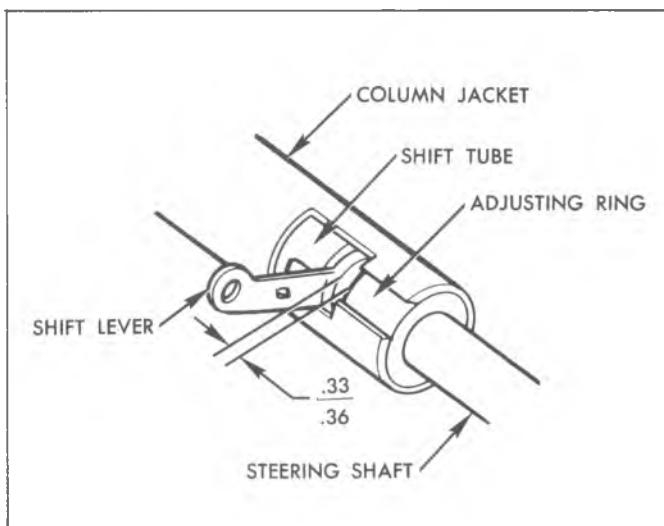

Fig. 38—Shift Tube Adjustment - Automatic Transmission
2. Loosen adjusting ring clamp screws and rotate the shift tube adjusting ring to obtain .33" to .36" clearance between the shift tube lever and adjusting ring (fig. 38).